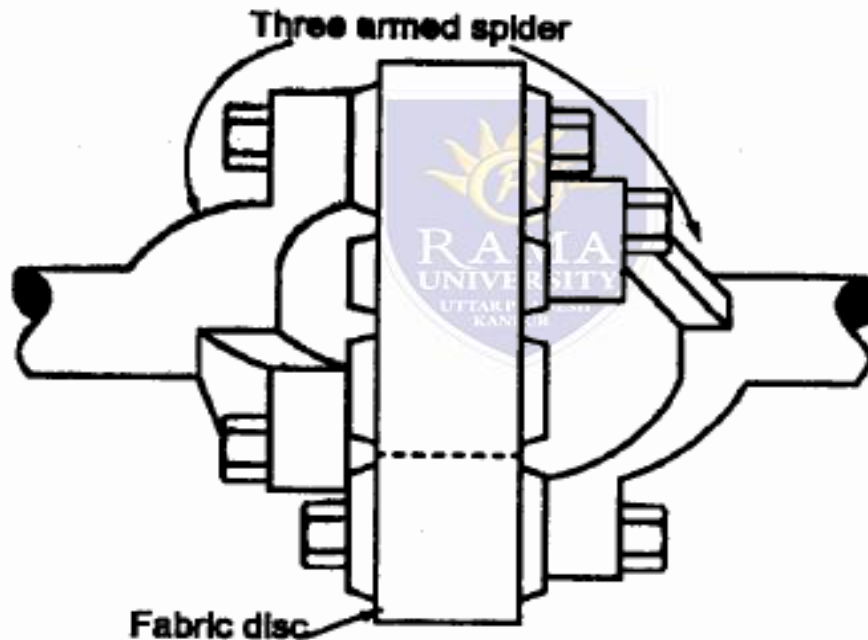

Figure 3.46 Ring type universal joint
- The arms of one spider are arranged midway between the arms of the other shown in Figure 3.46.